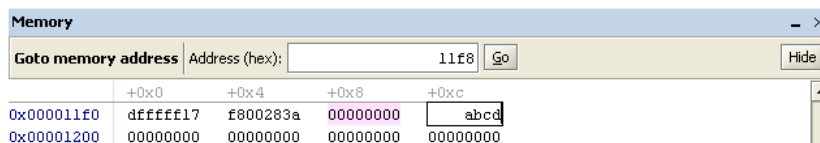

Figure 35. Editing the value at the 000011fc memory address.
2. Type in abcd, as in Figure 35.